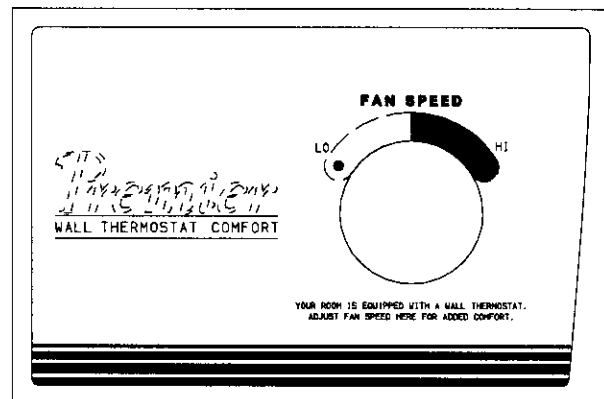

FIGURE 20 — 52P UNIT WITH WALL THERMOSTAT CONTROL SHOWN (Blank Plate)
■ **FAN SPEED CONTROL FOR 52P AND 52C WALL THERMOSTAT MODELS** — For maximum comfort, fan speed is user selectable at the unit. See Figure 20.